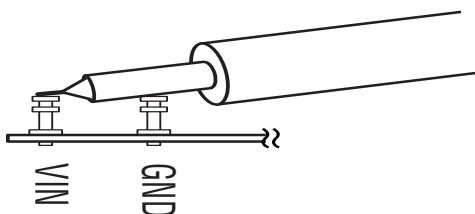

Figure 2. Measuring Input or Output Ripple
**NOTE.** When measuring the input or output voltage ripple, care must be taken to avoid a long ground lead on the oscilloscope probe. Measure the input or output voltage ripple by touching the probe tip directly across the VBUS or VOUT(x) and GND terminals. See Figure 2 for proper scope probe technique.